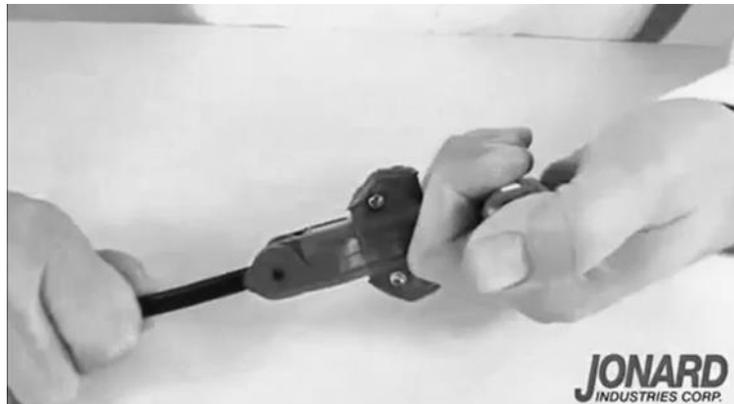

Figure 5 – Pull the cable splitter along the cable to slit the jacket.
4.5 Alternately, a Jonard FOD-2000 Drop Cable Slitter or Uraseal FOD Speed Slitter can be used to access the cable. Position the cable slitter and close it over the cable as shown in Figure 4. Pull the cable slitter along the cable to slit the cable jacket (Figure 5).